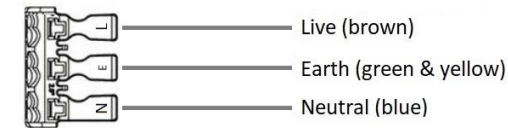

Fig. 3
- Connect the luminaire to the mains supply ensuring the correct polarity is observed (see Fig. 3): L – Live (brown), E – Earth (green/yellow), N – Neutral (blue). The earth terminal is non-functional and only provided for convenience. Two cables can be inserted into the push-fit terminal block in order to achieve loop-in/loop out wiring